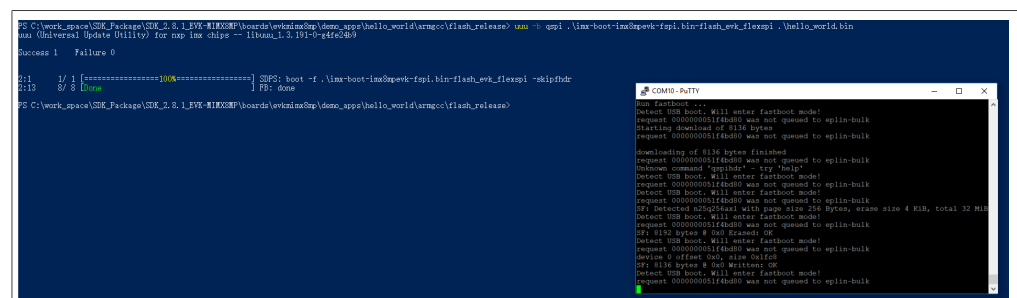

Figure 30. Command line and fast boot console output when executing UUU
5. In the command line, execute **uuu** with the **-b qspi** switch: `uuu -b qspi imx-boot-imx8mp-evk-fspi.bin-flash_evk_flexspi hello_world.bin`. The UUU puts the platform into fast boot mode and automatically flashes the target bootloader to QSPI. The command line and fast boot console is as shown in Figure 30.